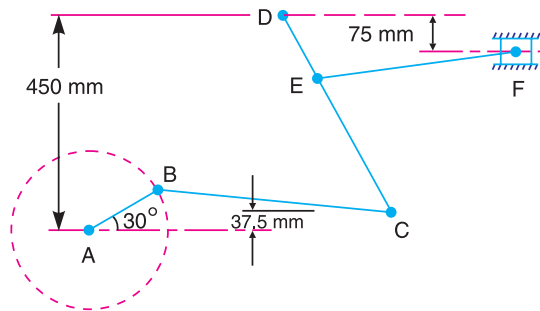

Fig. 7.34
- In a link work, as shown in Fig. 7.34, the crank AB rotates about A at a uniform speed of 150 r.p.m. The lever DC oscillates about the fixed point D , being connected to AB by the connecting link BC . The block F moves, in horizontal guides being driven by the link EF , when the crank AB is at 30° . The dimensions of the various links are :